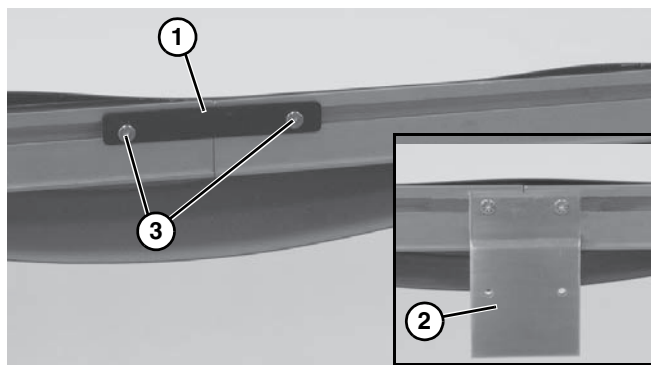

Figure 6
4. Join conveyor sections and install frame connector plates (**Figure 6, item 1**) or connector/mount brackets (**Figure 6, item 2**) and screws (**Figure 6, item 3**) on both sides as indicated. Tighten screws to 60 in-lb (7 Nm).